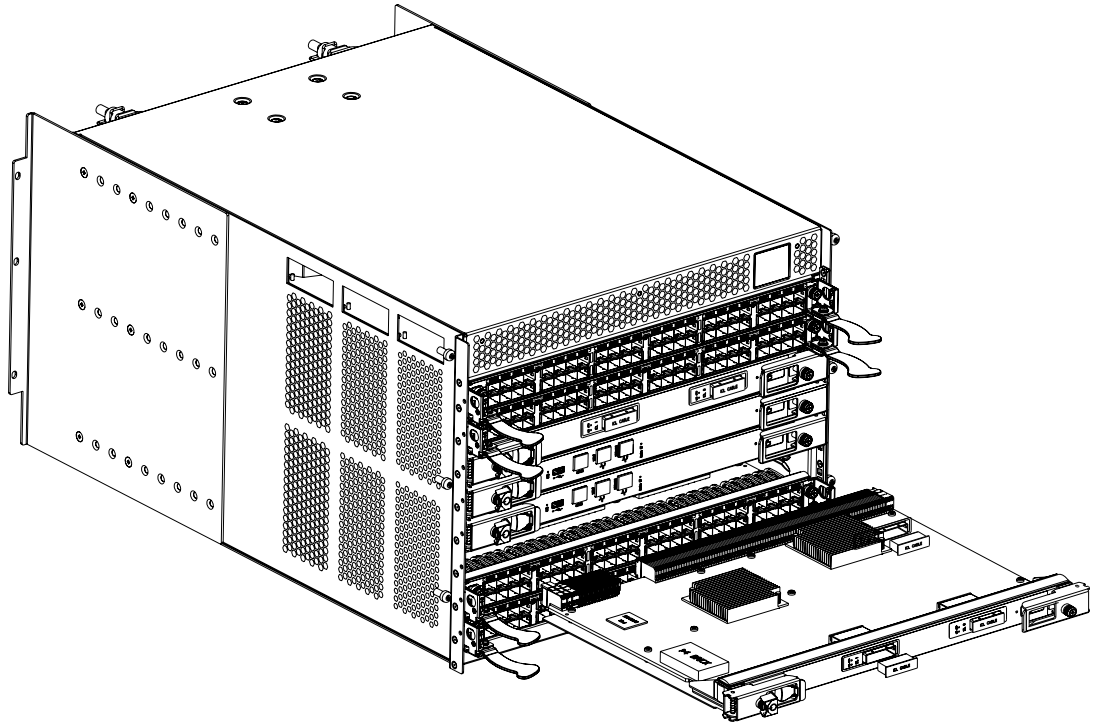

FIGURE 24 RRP: Core switch blade (CR4S-8)
This section describes how to remove and replace a core switch blade. The PowerConnect B-DCX-4S has two core switch blades: one in slot 3 and one in slot 6. Note that the blade shown in the removal illustration (Figure 24) is shown with EMI plugs installed.
2. Power off the blade by sliding the slider switch in the left ejector to the right to the off position (Figure 24).
5. Lever open both ejector handles simultaneously to approximately 45 degrees and pull the core switch blade out of the chassis (Figure 24).